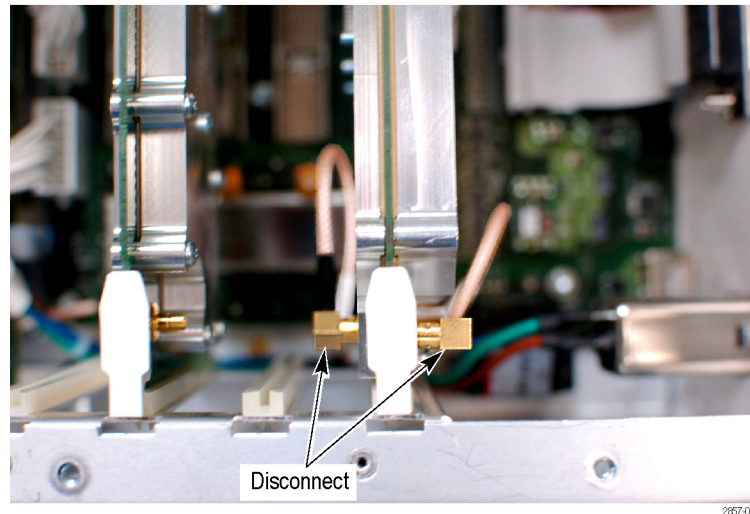

Figure 3: Disconnect the two SMB cable assemblies
2. Disconnect the two SMB cable assemblies from the installed acquisition board (in Slot 1). (See Figure 3.)